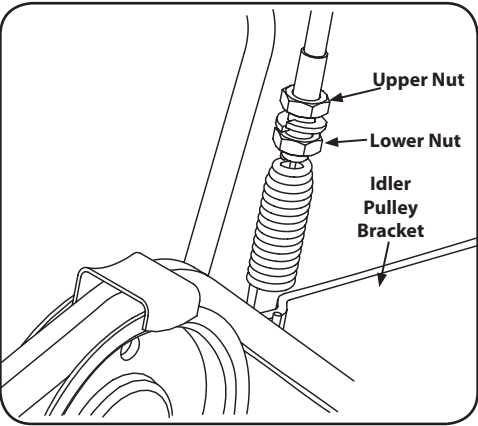

Figure 5-3
2. Locate the spring at the end of the cable. See Figure 5-3.